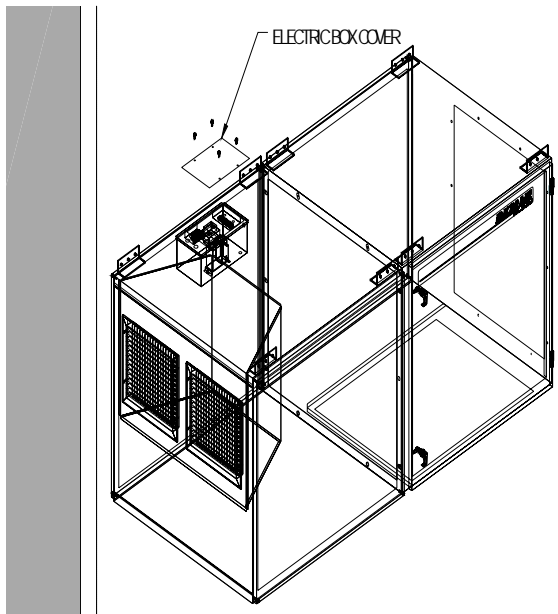

FIGURE 3
1. Remove electrical box cover located on top of the MC 3000 Blower Module (see Figure 3).